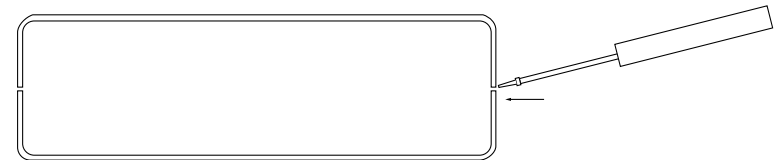
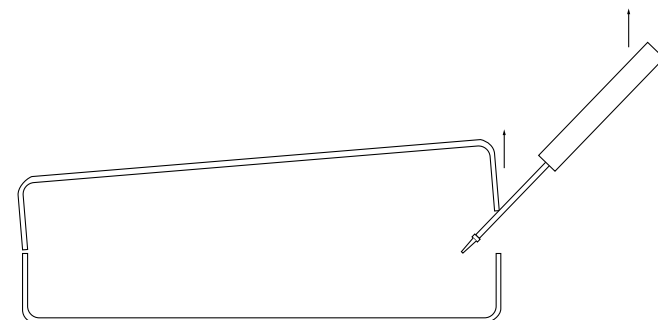

Figure 3. Opening the 2703 Case with a Small Screwdriver
Figure 4. Opening the 2703 Case With a Small Screwdriver
1. Insert a flat head screw driver into an open slot on either side of the case, as in Figure 3. Twist the screw driver head slightly and the top half of the case will separate from the lower half, as in Figure 4, below.